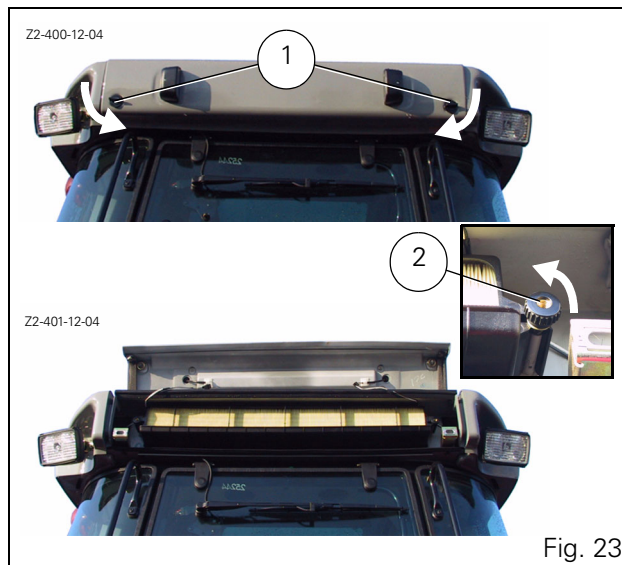

Fig. 23
1. To gain access to the cab air filter, turn locks 1 (Fig. 23) to open the hatch at the rear of the cab roof.
2. Loosen the two nuts 2 (Fig. 23) and extract the filter element.